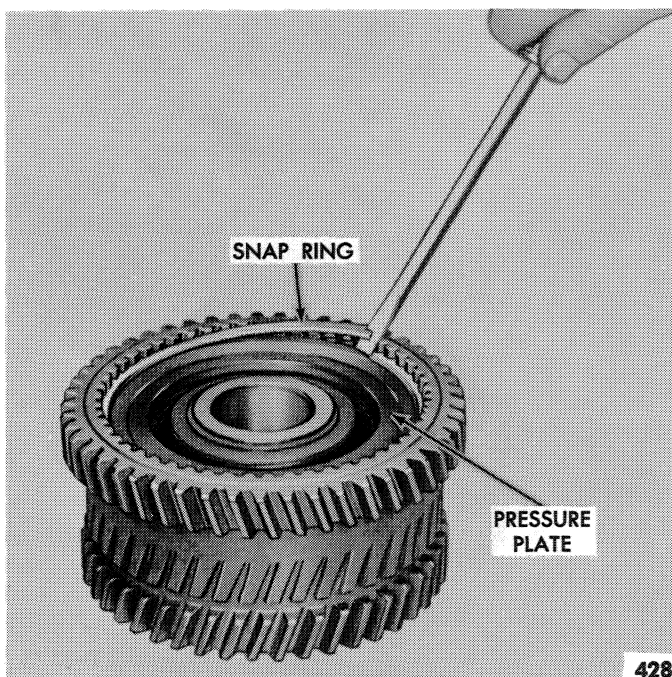

Figure 114—Clutch Snap Ring Removal
The following procedure pertains to all clutch packs in the Select-O-Speed Transmission. For purpose of illustration, the P.T.O. clutch assembly (Model 81 transmission) will be shown in Figures 114 through 118.
1. Remove the clutch pressure plate snap ring as shown in Figure 114.